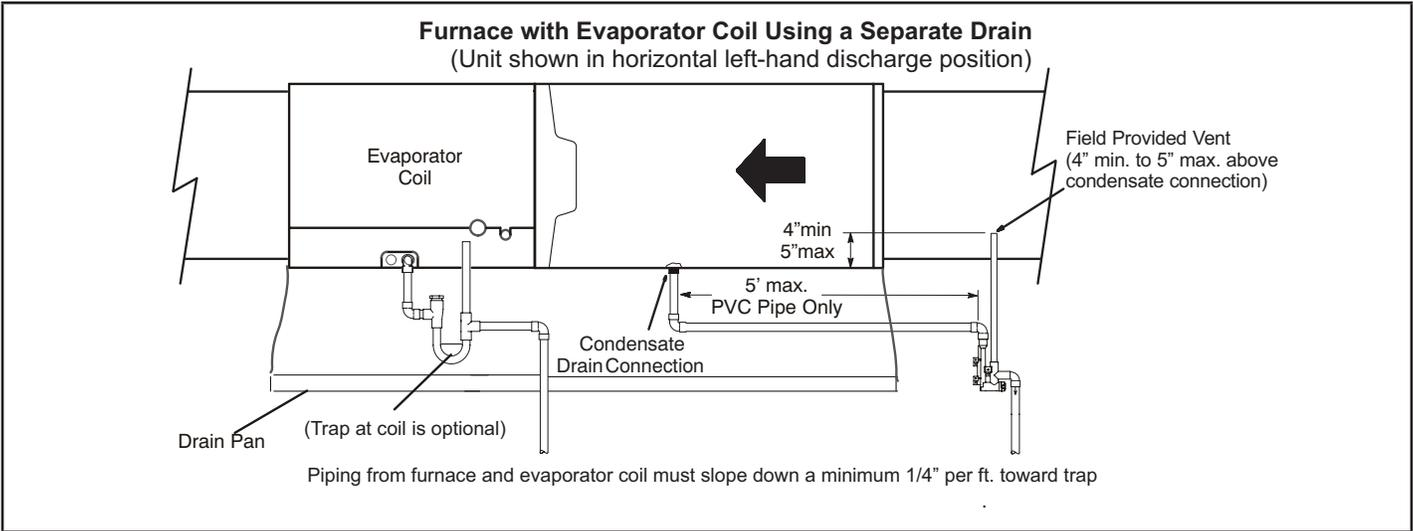

**FIGURE 49**
- 5 - Figures 48 and 50 show the furnace and evaporator coil using a separate drain. If necessary the condensate line from the furnace and evaporator coil can drain together. See FIGURE 49, FIGURE 51 and FIGURE 52.